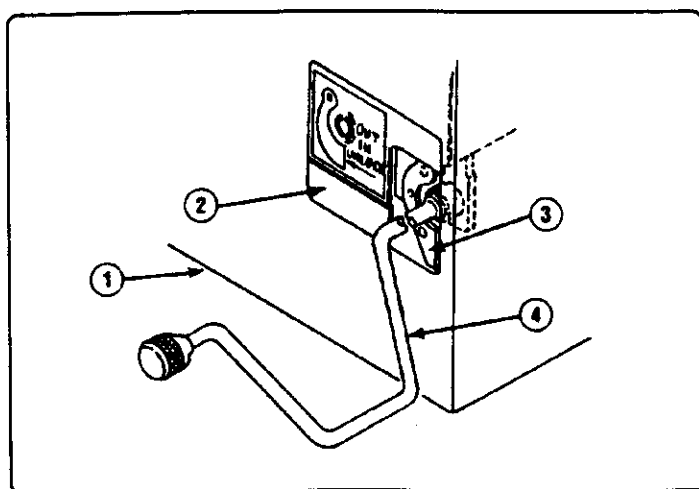

Fig. 4 - Method of Racking Circuit Breaker
Engage racking crank (4, Fig. 4) and push racking unlocking lever (3) to left, then rotate racking crank counterclockwise only until resistance to motion is felt (DO NOT FORCE). If closing springs were left in the "CHARGED" condition, they will automatically discharge.
To rack circuit breaker to "TEST" position, push racking unlocking lever (3, Fig. 4) to left, rotate racking crank approximately 1/4 turn clockwise, then release unlocking lever. Continue cranking until racking mechanism automatically stops at "TEST" position. With the circuit breaker racked to "TEST" position, it should be checked for proper operation by operating all possible means of opening and closing, this includes control switches, relays, etc. Turn motor disconnect switch (1, Fig. 3) to "ON" position to charge the closing springs, and operate the breaker as required.
When racking circuit breaker to "CONNECTED" position, close compartment door (1, Fig. 4) and insert racking crank (4, Fig. 4) through sliding panel (2, Fig. 4).
Push unlocking lever (3, Fig. 4) to left and turn racking crank (4, Fig. 4) approximately 1/4 turn clockwise, then release unlocking lever. Continue cranking until racking mechanism automatically stops at "CONNECTED" position.
CIRCUIT BREAKER REMOVAL (See Fig. 4)